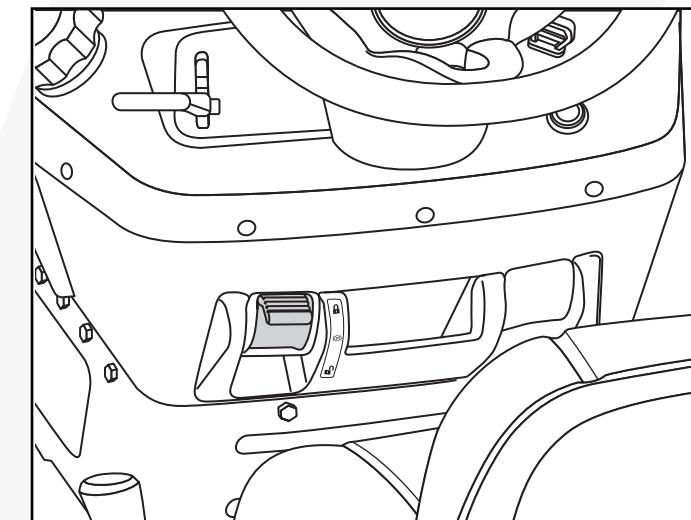

Fig. 21
2. Raise the parking brake lever all the way up into the lock position. (Fig. 21)